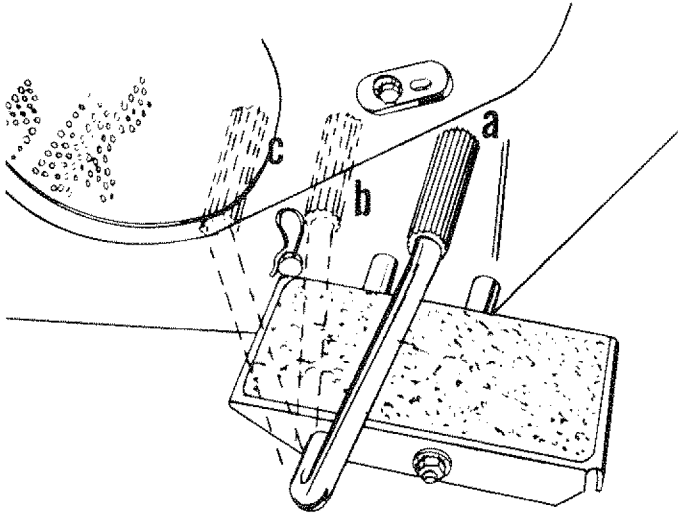
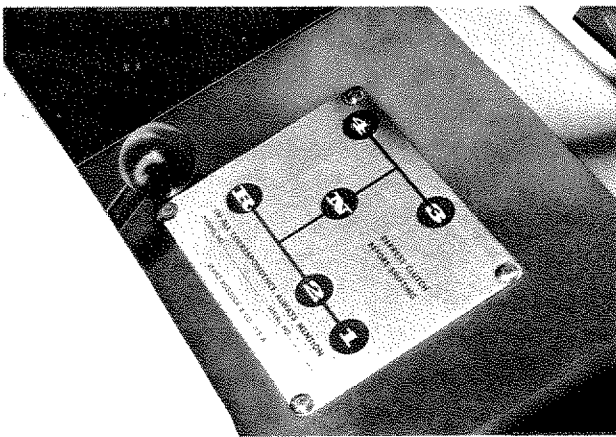
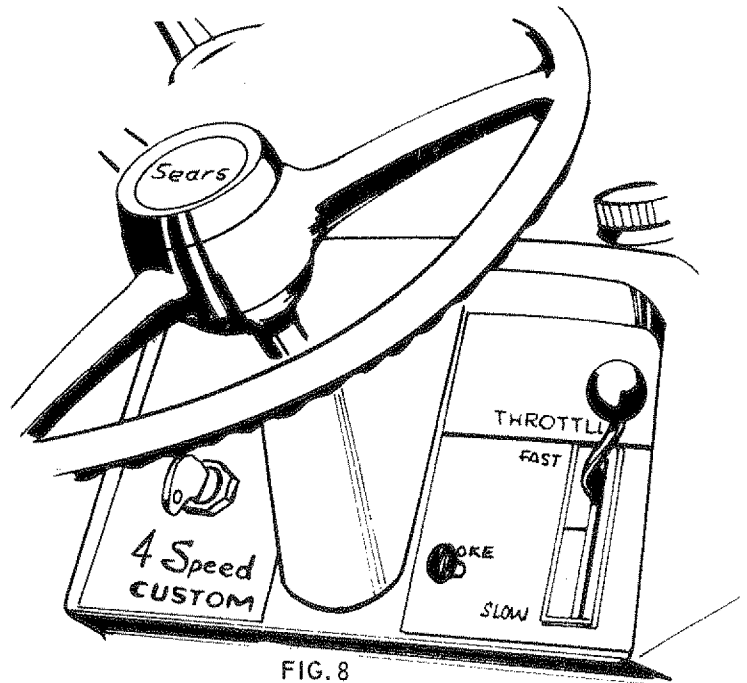
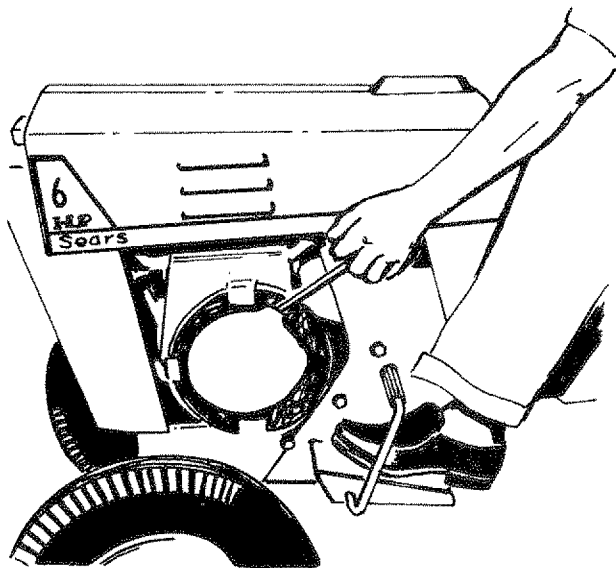

FIG. 5
FIG. 6
FIG. 8
FIG. 9
1. The Drive, Clutch and Brake pedal is shown in Fig. 5. This pedal operates a combination brake and drive clutch. There are three positions of operation:
2. The Transmission gear shift lever is located at front center of seat. Refer to Fig. 6.
1. Transmission gear shift lever, refer to Fig. 6, is in NEUTRAL. In Neutral the gear shift lever is free to move forward and backward. It will operate similar to an automobile.
3. To start a cold engine, pull out on choke control, refer to Fig. 8.
2. Refer to Fig. 9. Turn key in ignition switch clockwise to "on" position.
4. After engine starts, move throttle lever to fast position; refer to Fig. 8.
2. Refer to Fig. 9. Turn key in ignition switch clockwise to engage starter. When engine starts, release key and move throttle lever, refer to Fig. 8, to fast position.
2. Start the engine and put the throttle lever in the SLOW position, refer to Fig. 8. Push down on foot pedal, refer to Fig. 5, and move gear shift lever, Fig. 6, to speed desired. Gradually let up on foot pedal. **DO NOT SHIFT GEARS WHILE TRACTOR IS MOVING.**